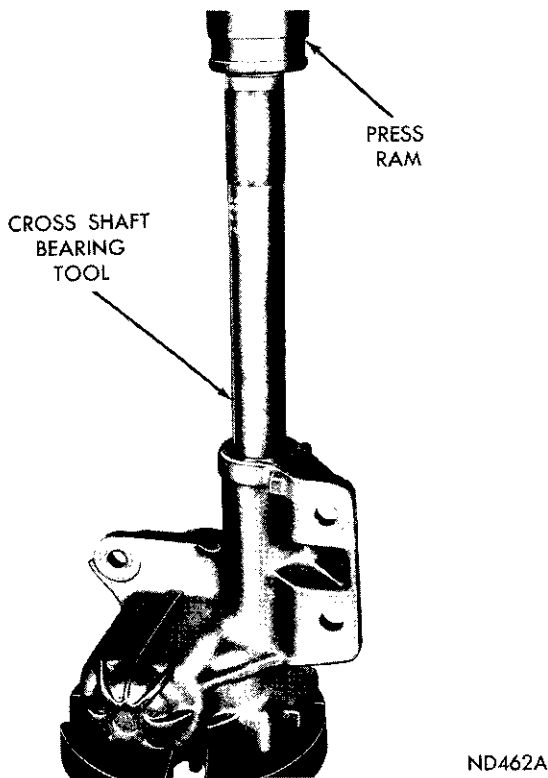
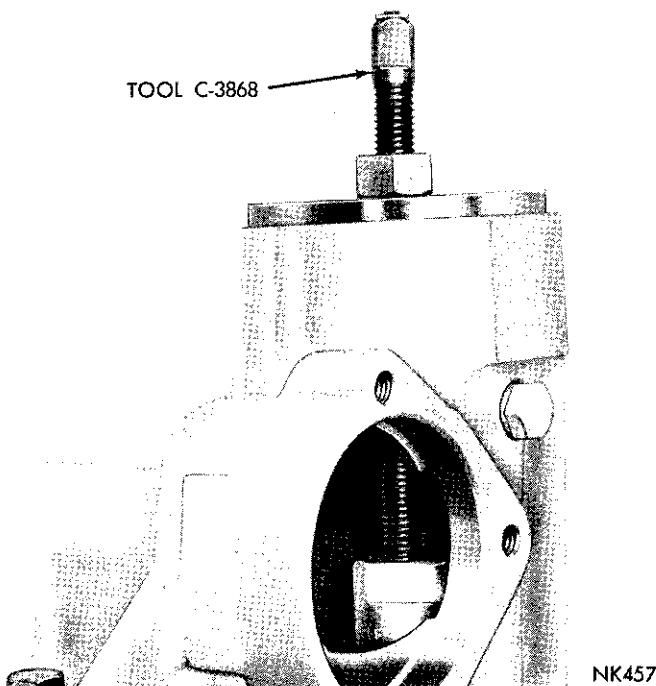

Fig. 7—Removing Cross Shaft Inner and Outer Bearings
Fig. 8—Removing Lower Bearing Cup
(10) Remove cross shaft needle bearing by placing steering gear housing in an arbor press; insert Tool C-3786 in lower end of housing (Fig. 7) and press both bearings through housing. **The cross shaft cover assembly, including a needle bearing or bushing, is serviced as an assembly.**
(11) Remove wormshaft oil seal from wormshaft bearing adjuster, by inserting a blunt punch behind seal and tap alternately on each side of seal until seal is driven out of adjuster.
(12) Remove wormshaft spacer and upper bearing cup in same manner. However, this must be done carefully to avoid cocking bearing cup and distorting adjuster counterbore.
(13) Remove lower cup if replacement is necessary by positioning locking head jaws of remover Tool C-3868 (Fig. 8) behind bearing cup and expanding remover head by pressing down on center plunger of